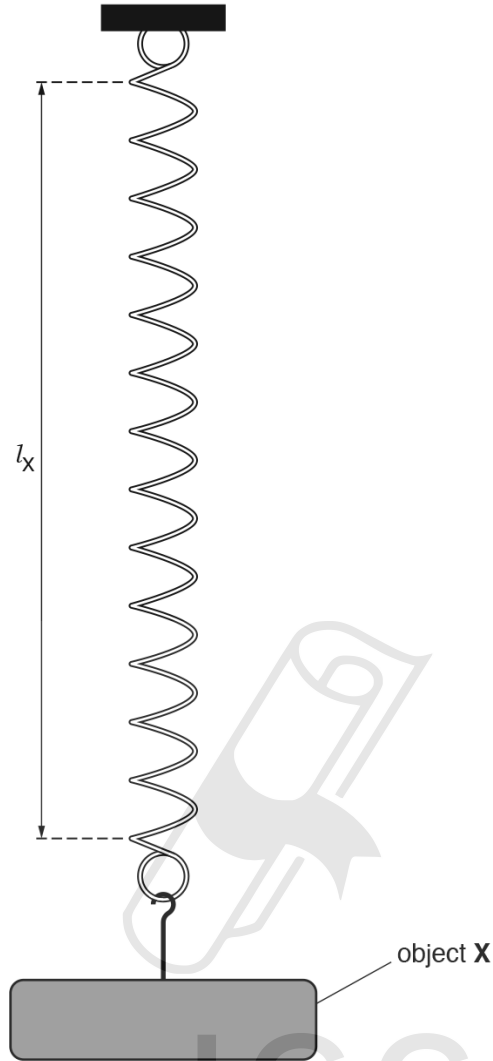

Fig. 3.2
- (i) Measure the stretched length l_x of the spring on Fig. 3.2.